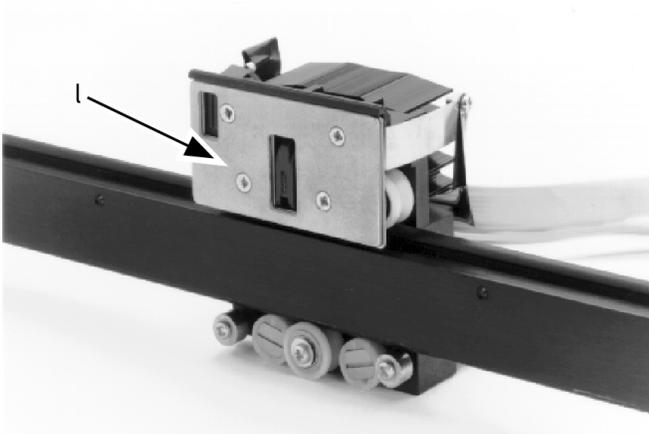

Figure 5.12.3e
- l Print head shield (figure 5.12.3e)